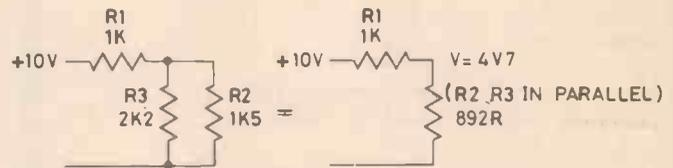

Fig. 2. How the circuit of Fig. 1 looks when the 12 V terminals are shorted.
1. Imagine the 12 V terminals shorted. The circuit now looks like Fig. 2, with R2 and R3 parallel. Combining 2k2 and 1k5 in parallel gives 892R, so that the circuit consists of a 10 V supply feeding 892R through a 1k series resistor. Using the potential-divider law, the voltage across the 892R resistor is now